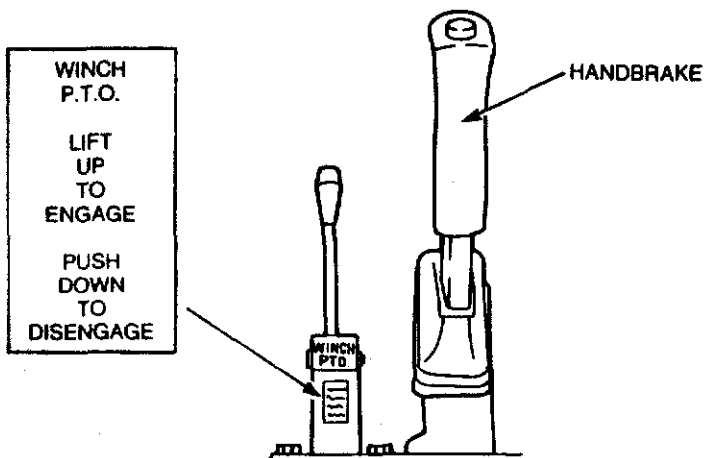

Figure 2-6 Winch/PTO control operation
- c. Depress the clutch pedal and select reverse gear, then pull up the winch/PTO control in the seat base (see Fig. 2-6) to engage the winch drive. Increase engine speed to approximately 1300 rpm then slowly release the clutch pedal to begin winding out the winch rope.
- c. Depress the clutch pedal and select a low forward gear, then pull up the winch/PTO control in the seat base (see Fig. 2-6) to engage the winch drive. Increase engine speed to approximately 1300 rpm then slowly release the clutch pedal to begin winding in the winch rope.